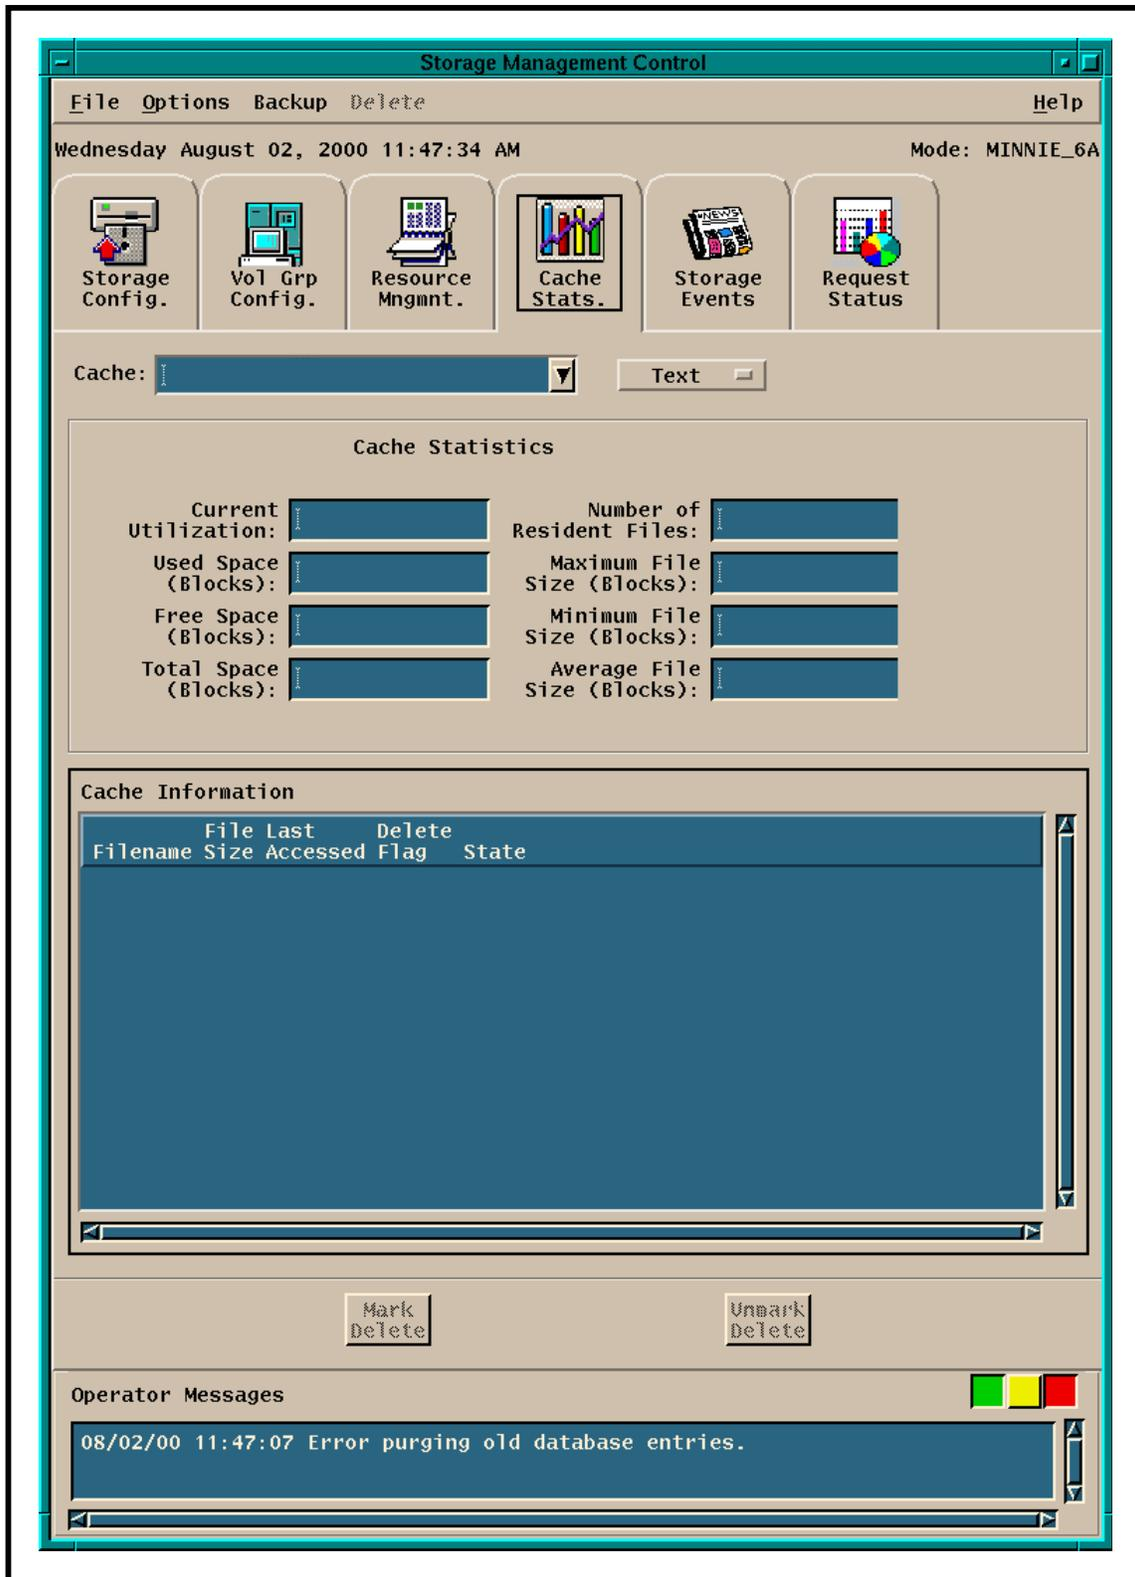

Figure 13. Storage Management Control GUI's Cache Stats. Tab
- The **Cache Stats.** tab (Figure 13) is displayed.